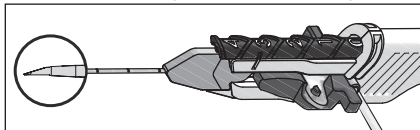

Figure 5
- Ensure the "0" mark on the guidewire slider is visible (refer to Figure 5).
- Precaution:** Prior to insertion, distal tip of catheter must be fully retracted past needle bevel or catheter tip damage may occur (refer to Figure 5).